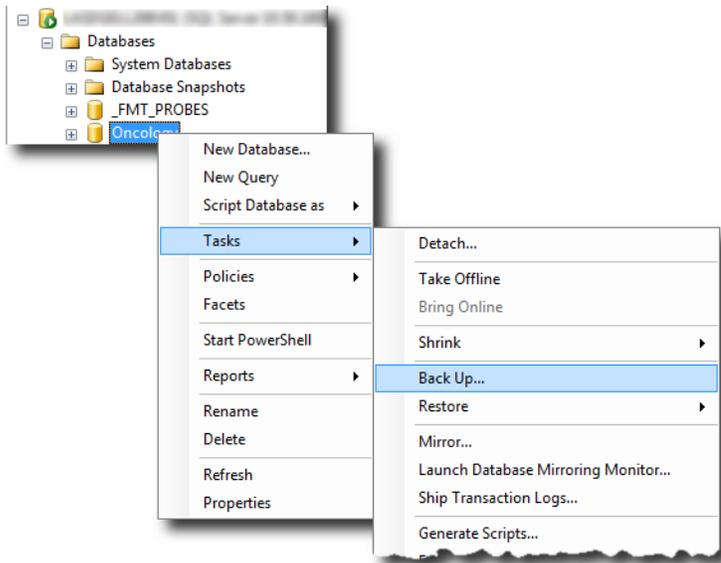

Figure 10-9. Backing up databases from SQL Server Management Studio.
3. In the left column, expand **Databases**, right-click the database you want to back-up and choose **Tasks | Back Up** (Figure 10-9).